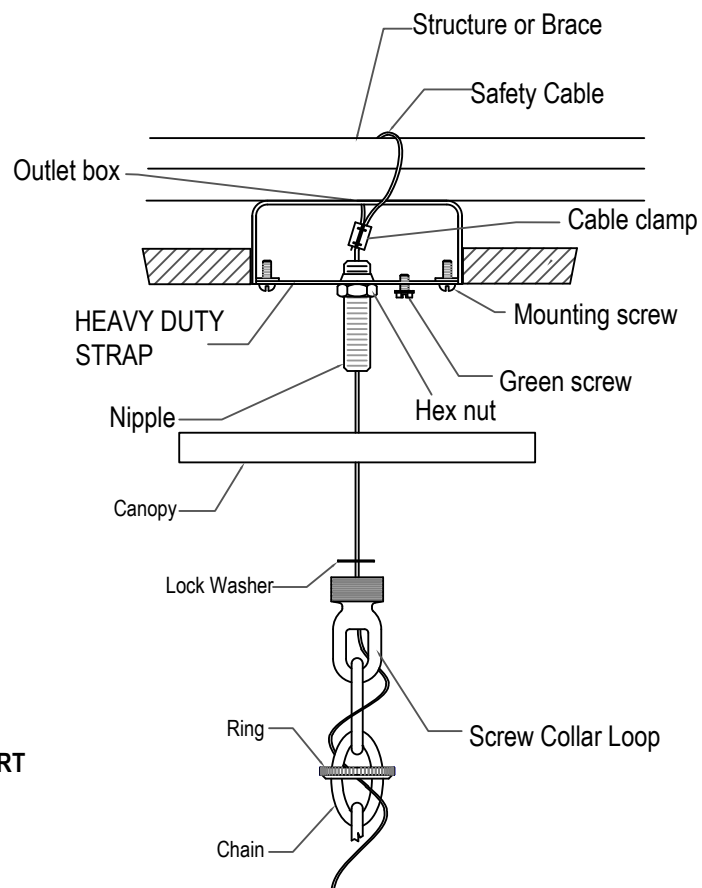

FIGURE-1
- THIS FIXTURE WEIGHS MORE THAN 50 lbs. IT MUST BE MOUNTED ON AN APPROVED HEAVY DUTY OUTLET BOX SUITABLE FOR A CEILING FAN OR A FIELD CONSTRUCTED SUPPORT SYSTEM (SEE FIGURE-1)
1. Attach the SAFETY CABLE to the building structure or brace (See figure-1).
9. Attach the **SAFETY CABLE** to the fixture (See figure-1).